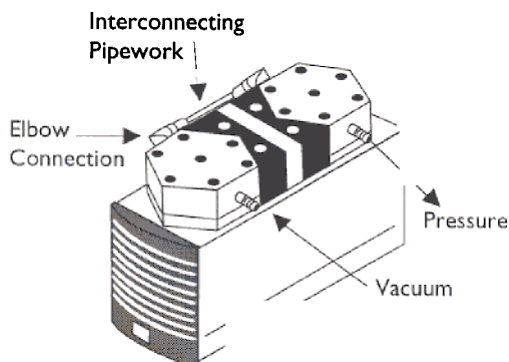

Figure 14: Gas Ballast
- ★ Remove the pipe work connecting the pump heads (*see figure 14*).
- ★ Unscrew the connecting piece from the vacuum side of the head. (*See figure 14*).